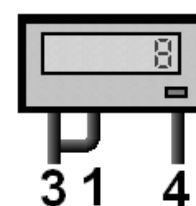

Figure 6 : Wiring Display Unit
- 3.4 **Display unit:** The display unit is connected as shown in Figure 6. The connecting leads do not need to be kept short but should be routed away from electrically noisy environments. This allows the display unit to be panel mounted in a convenient location.